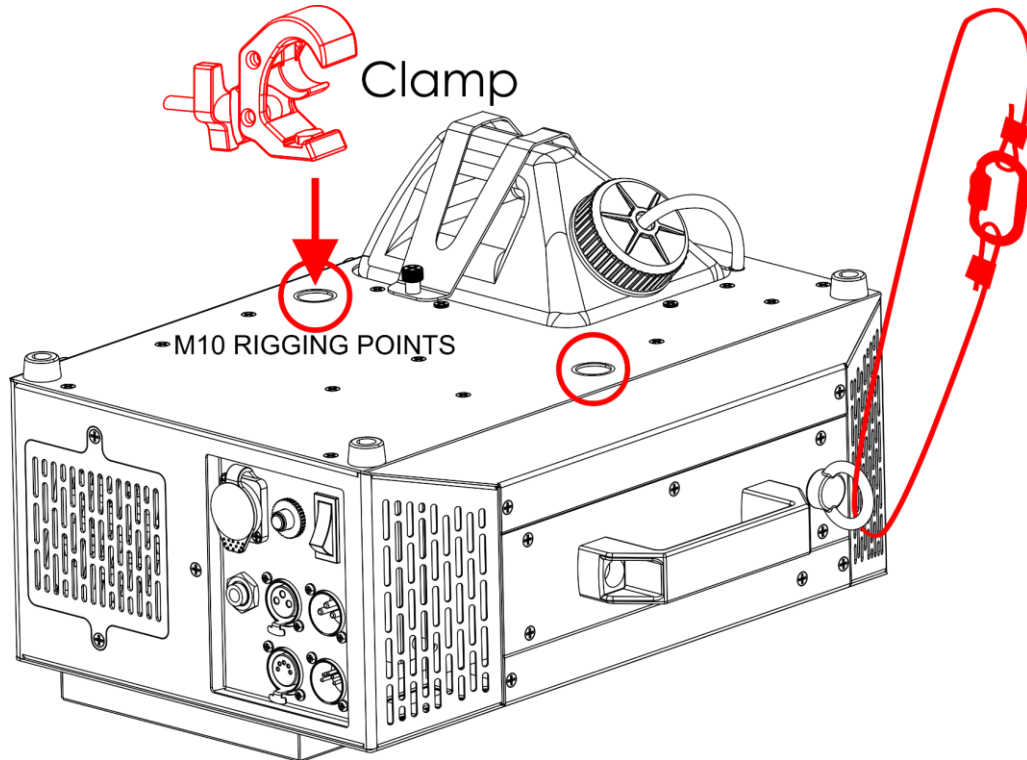

Fig. 05
- 01) Use a clamp to attach the device to the supporting structure, as shown in Fig. 05. Make sure that the device cannot move freely.
- 02) Secure the device with a secondary suspension, for example a safety cable. Make sure that the secondary suspension can hold 10 times the weight of the device. If possible, the secondary suspension should be attached to a supporting structure independent of the primary suspension. Put the safety cable through the **safety eye (05)**, as shown in Fig. 05.